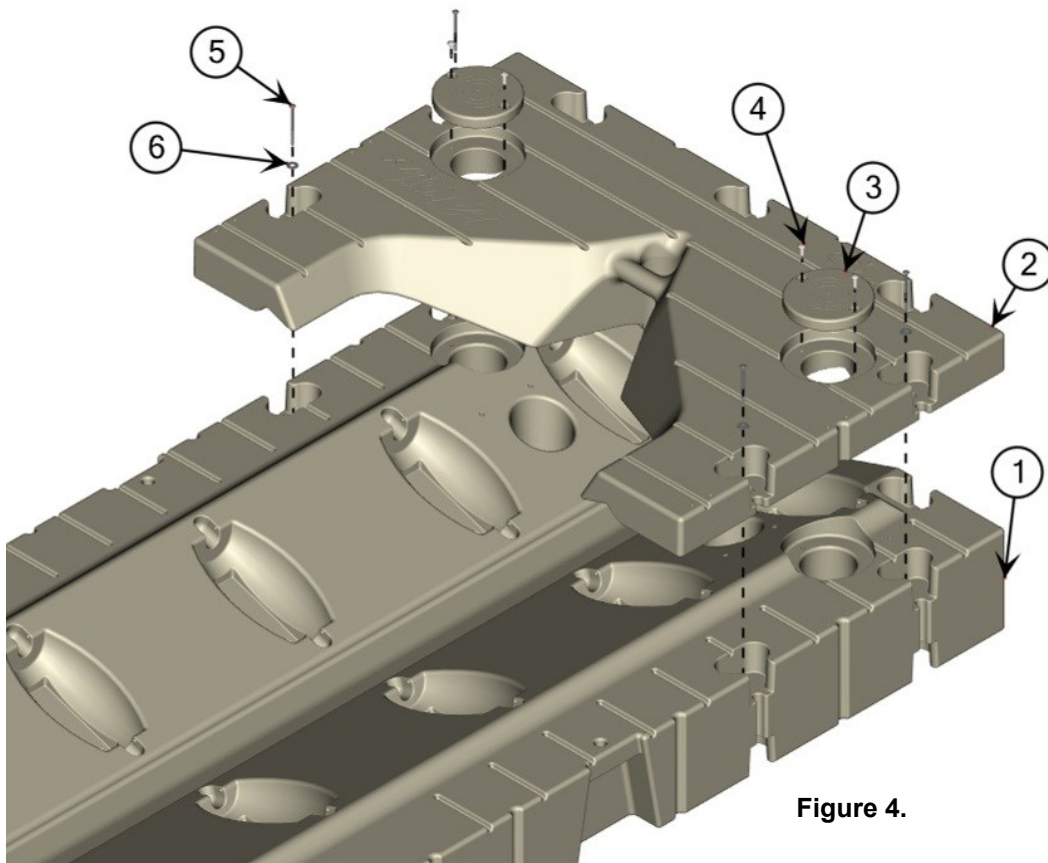
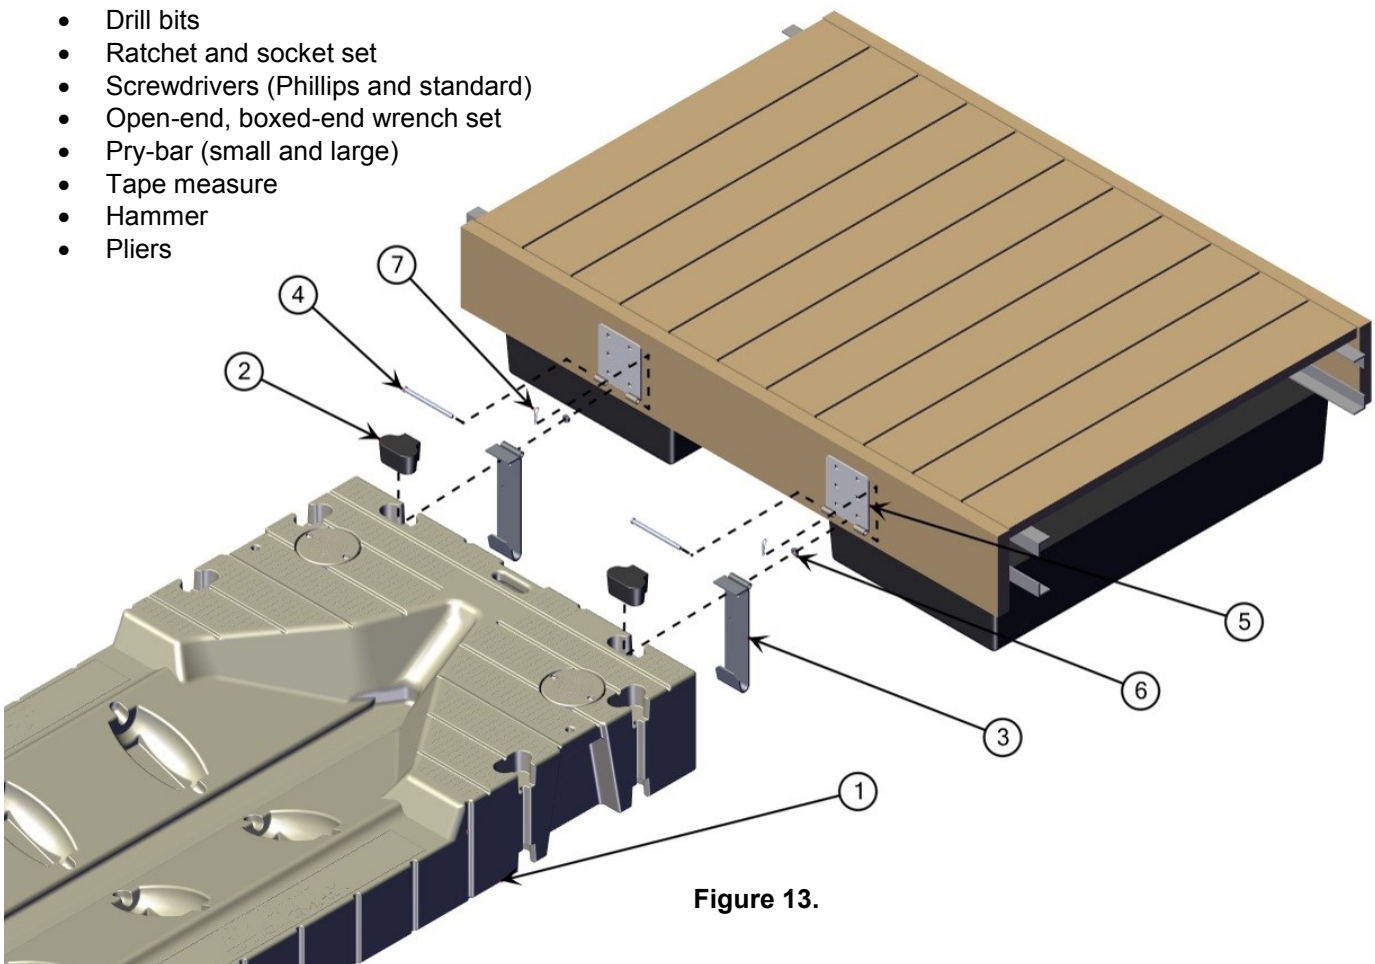
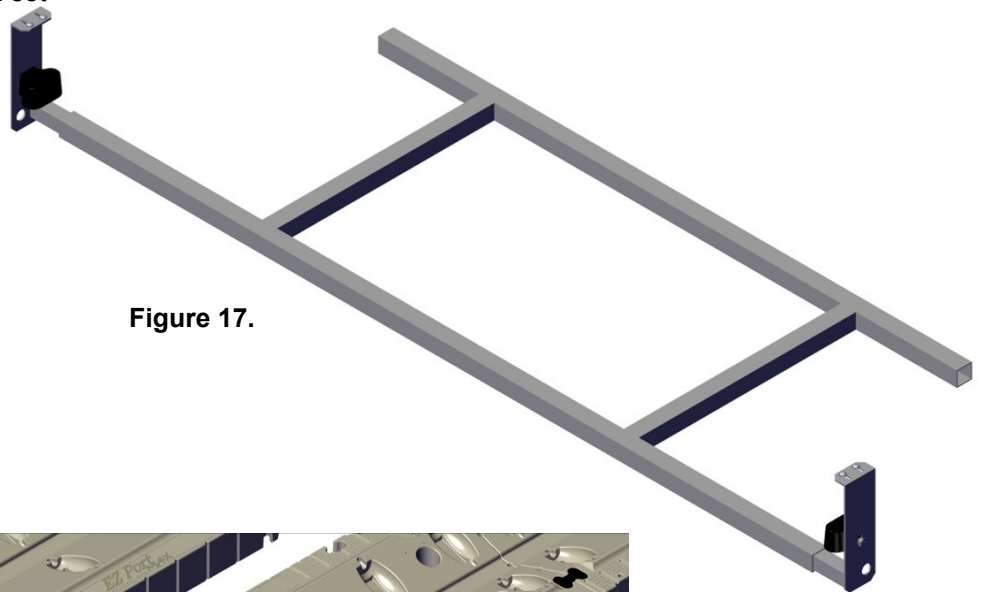

Figure 4.
Figure 13.
Figure 17.
- The full bow section (Figure 4)(Item 2) must be used to attach the EZ Pontoon Lift to new or existing EZ Dock floating docks and provides additional walking surface. To install, place the full bow section onto the front of the entry section and align the front of the bow with the front of the entry. Install four (4) bolts and washers (Items 5 & 6) into the holes as indicated below and tighten.
The 100750 or 100750SS hinge kit is required when anchoring an EZ Pontoon Lift (PL2000 & PL3500) with Full Bow Section (206025BS) (Item 1) (Figure 13). The full bow section must be attached to the EZ Pontoon Lift Extension with the screws provided prior to the installation, (See Page 7 Figure 4 for bow section installation instructions).
2. Determine the best position for the hinge adapter plate. The plate should be above (Figure 13) the hinge adapter bracket.
The EZ Pontoon Lift, PL3500, utilizes an Under Water Finger Stiffener (UFS) to ensure that the center to center dimension of the pontoon boat is maintained through out the length of the fingers. As seen in Figure 13 below, the UFS 350 connects to the molded in T-Nuts on the entry side of the port and uses a hardware connector to attach to the port. Using a slip tube method and a pair of 1/2" bolts to tighten the adjustment the center to center dimension of the pontoon boat can be maintained (Figure 17).